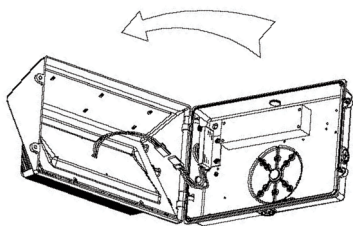

Fig. 10
3. Open the fixture and disconnect the connection terminals, and remove the upper cover of the fixtures. (Fig. 10)